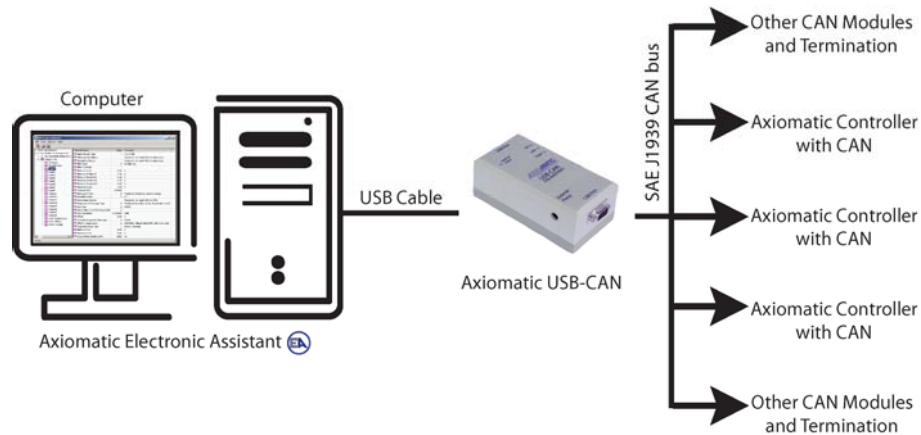

Figure 2 - User Configuration Using the Axiomatic Electronic Assistant (EA)
User Interface	<p>The Axiomatic Electronic Assistant (EA) for Windows operating systems. It comes with a royalty-free license for use.</p> <p>The Axiomatic Electronic Assistant requires a USB-CAN converter to link the device's CAN port to a Windows-based PC for initial configuration. Order the Axiomatic EA and Axiomatic USB-CAN as a kit (P/Ns AX070502, AX070505K or AX070506K), which includes all interconnecting cables. Refer to Figure 2.</p>